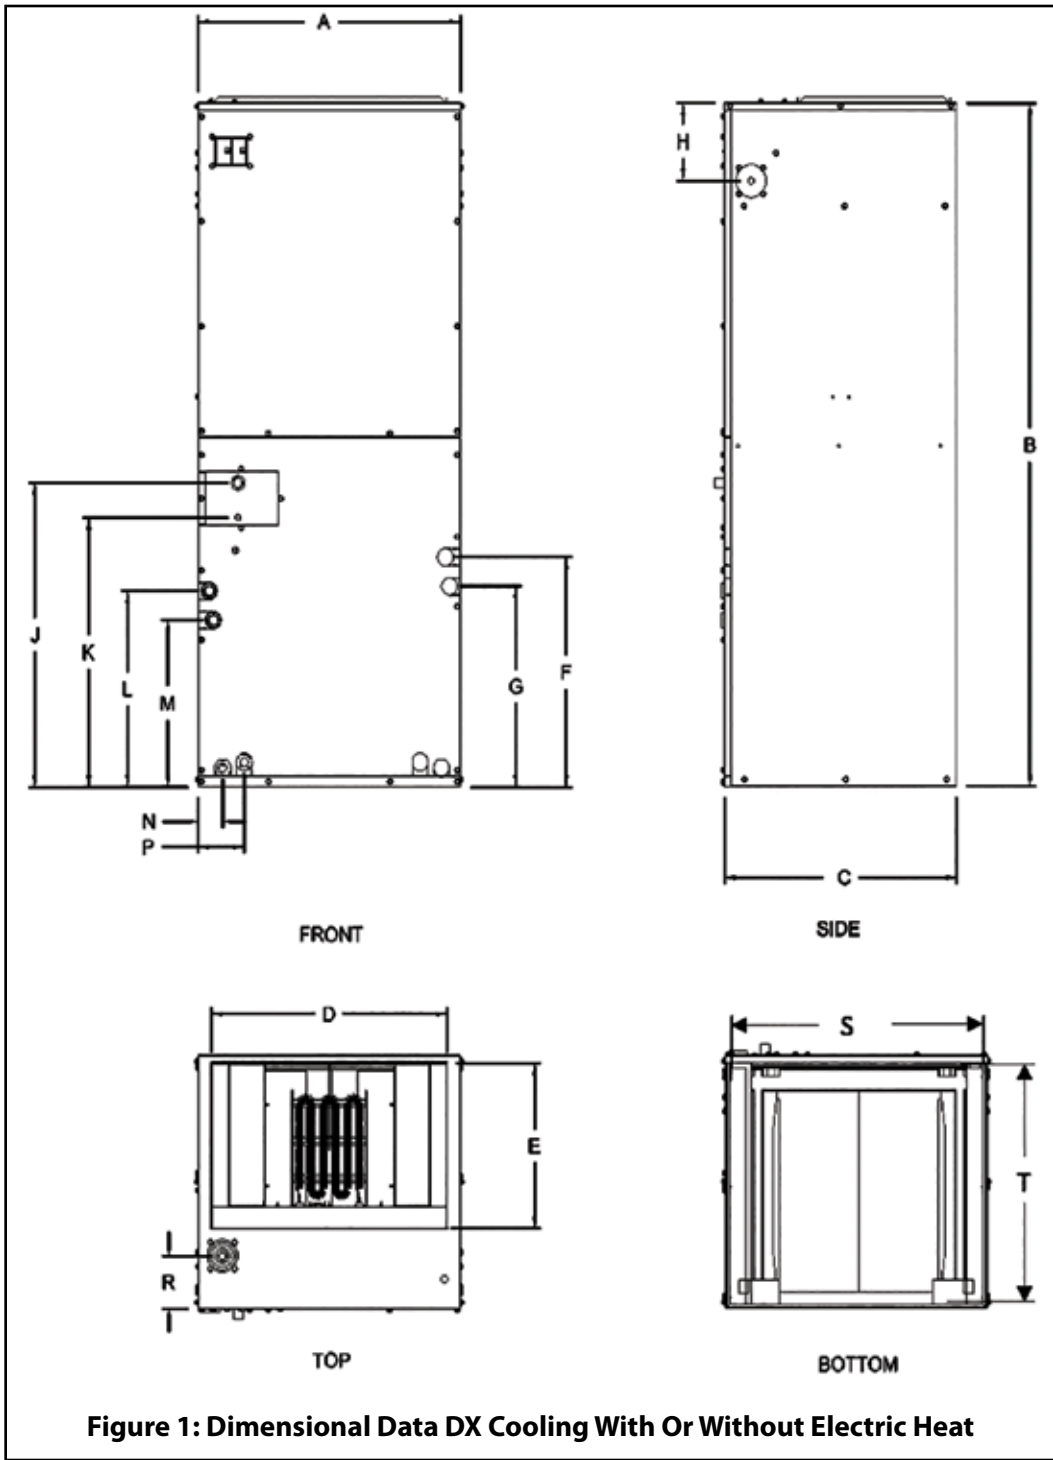

Figure 1: Dimensional Data DX Cooling With Or Without Electric Heat
1. Refer to the unit rating plate for the air handler model number, and then see the dimensions page of this instruction for return air plenum dimensions in Figures 1 and 2. The plenum must be installed according to the above listed codes or the instructions in this manual.